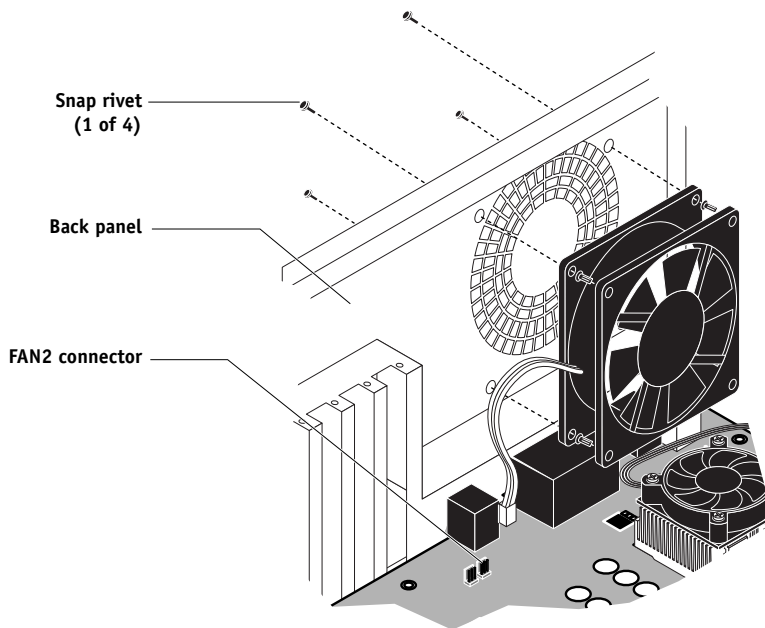

FIGURE 4-25 Removing the back panel fan
1. **Position the fan on the inside of the back panel so that the mounting holes line up with the four holes on the chassis (see Figure 4-25 on page 4-38).**
3. **Connect the fan cable to the motherboard connector FAN2 (see Figure 4-25 on page 4-38).**